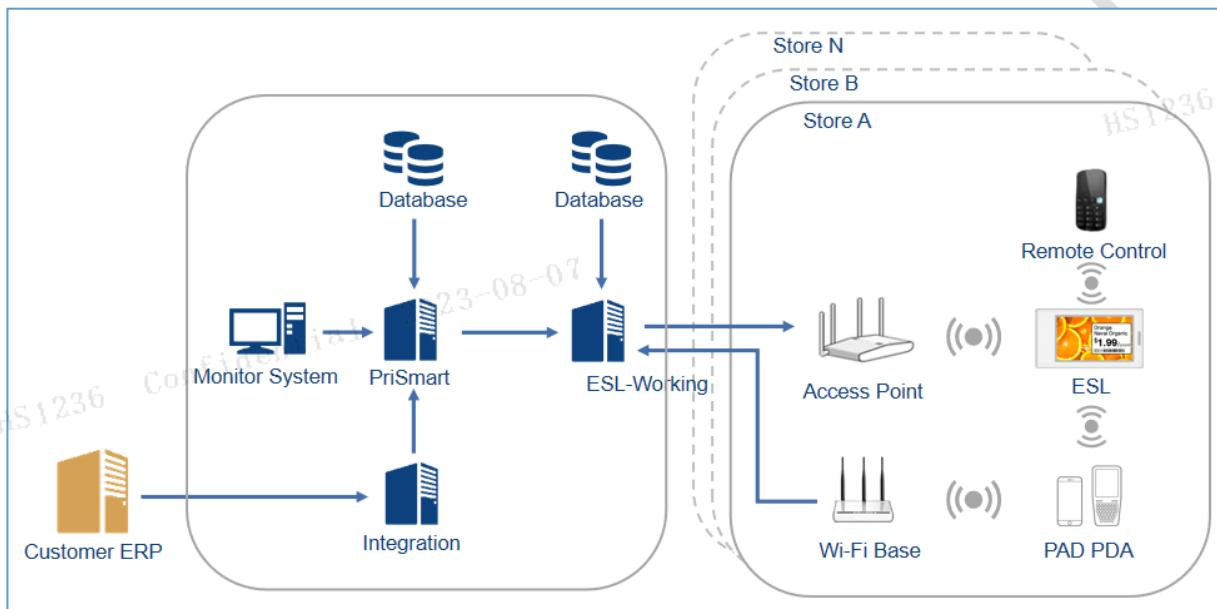

Figure 3-1 ESL system architecture
Hanshow ESL system is composed by Electronic Shelf Label (ESL), ESL controller (AP), ESL-Working, PriSmart, database, integration server, monitoring system and Handheld Terminal (PDA), as shown in *Figure 3-1*.